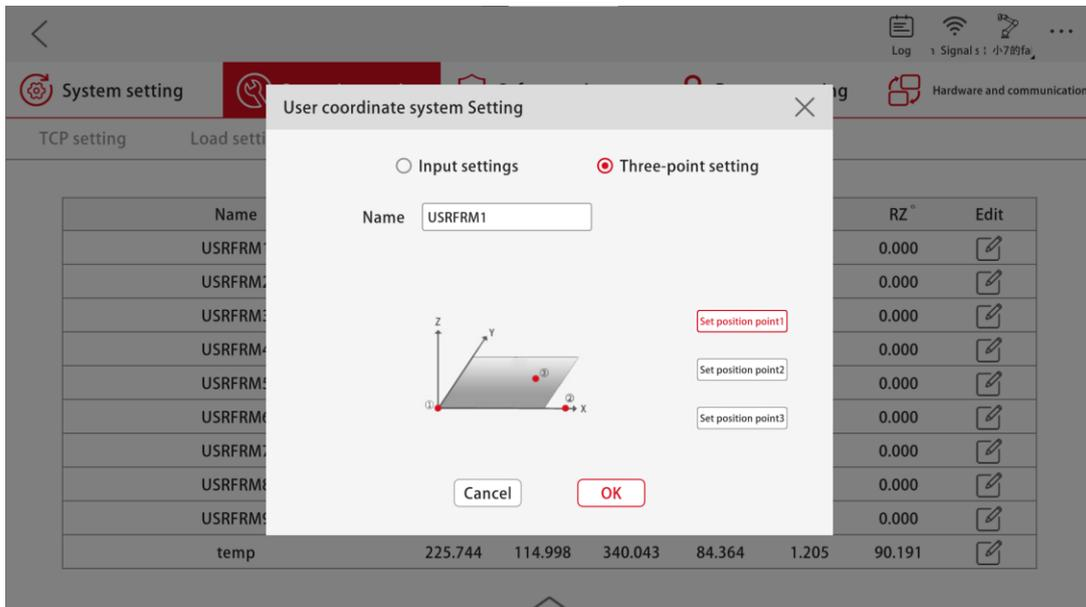

Figure 3-13 Three-point Setup Interface of User Coordinate System
(2) Three-point setup (as shown in Figure 3-13):